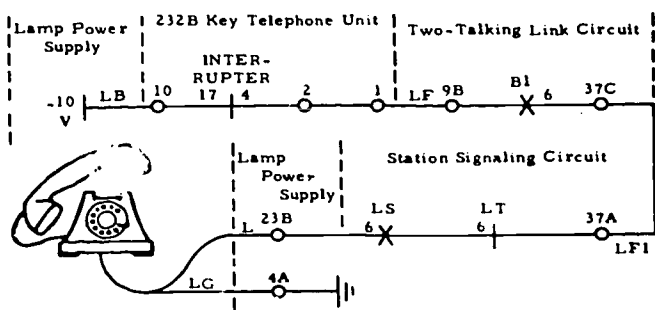
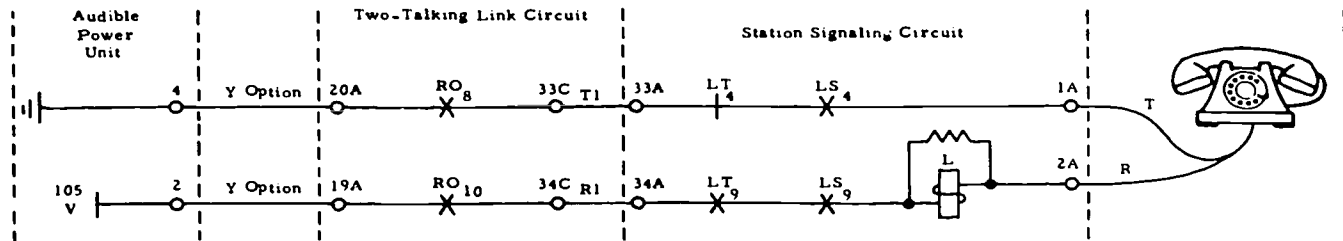

Figure 2-21. Lamp circuit for indicating an unanswered call.
Figure 2-22. Line diagram showing 6A system ringing circuit.
(1) Relay LS operates. The operating and locking circuits for relay LS have already been described. The CH relay in the LS relay locking circuit has too little current to operate at this time. Operated contact EMB6 of relay LS completes the flashing lamp circuit for the called telephone set. Figure 2-21 illustrates this flashing lamp circuit. We have used terminal 23B rather than terminal C, as shown in foldout 3, because C is a reference designation for the third terminals. Look at the punching chart between figures 2 and 19 on foldout 3, and you will see where this 23B determination was obtained. Parallel to the C reference are 3A, 13A, 23A, etc. For Circuit 7 (station 7), 23B is shown as the proper punching to use. Remember: Contact 4 of the interrupter unit is operated at regular intervals when the interrupter is operating. Operated relay ST started it to operating. Operated contacts PMEB4 and PMEB9 of relay LS complete a ringing circuit for the called telephone. Tracing figure 2-22 and foldout 3 discloses